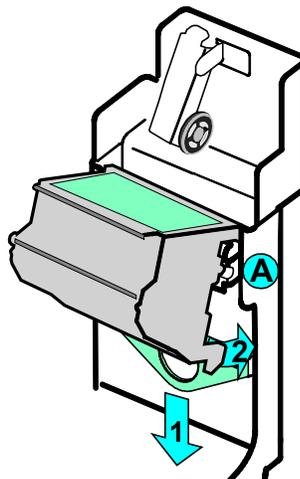

Figure 4-20: Secure the printhead cartridge
- ❗ The notches on the printhead cartridge should align with the notches on the spring bar (A in Figure 4-20).
- 6 Hold the printhead cartridge latch lever down (step 1 in Figure 4-20) and pivot the printhead cartridge down toward the swing arm (step 2 in Figure 4-20). Release the latch lever when the printhead cartridge is in place.